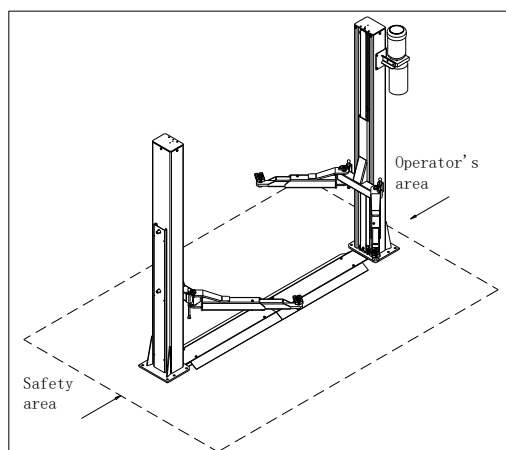

Fig.12 Working Area
1. People rest inside the safety area while the vehicle raising (Fig.12)